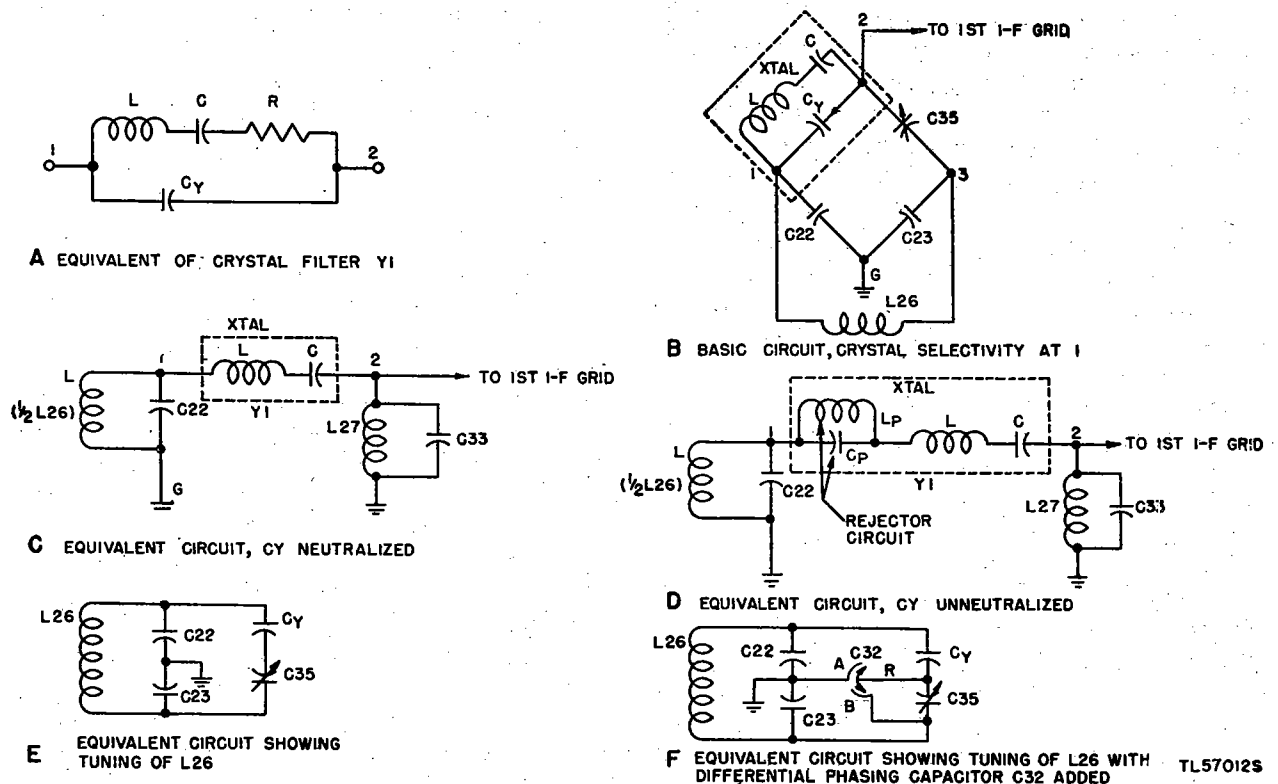

Figure 28. Radio Receiver BC-779-B, functional and equivalent diagrams of crystal filter circuit.
(4) Refer to appendix III for circuit details of Improvement Kit MC-531.
61. Crystal Filter (fig. 28)
a. EQUIVALENT CRYSTAL CIRCUIT. The equivalent electrical circuit of a crystal is shown in "A," figure 28. The circuit, and hence the crystal, are resonant at two frequencies: The frequency at which the reactance of L is equal to the reactance of C (series resonance), and the frequency at which the effective reactance of L-C (in series) is *inductive* and *equal* to the capacitive reactance of C_X (parallel resonance). At the series-resonant frequency the crystal acts as a low-impedance connection between 1 and 2. At the parallel-resonant frequency the crystal acts as a high impedance between 1 and 2.
b. BASIC FILTER CIRCUIT ("B," fig. 28). Capacitors C22 and C23 (100 mmF each) are connected in series across the secondary of i-f input transformer L26, and their junction is grounded to provide a midpoint connection in the resonant circuit L26-C22-C23. Consequently, the capacitor voltages are always of equal amplitude but 180° out of phase. Phasing capacitor C35 (1.5 to 5 mmF) is connected between 3 and 2, and the crystal is connected between 1 and 2.
c. NEUTRALIZATION OF C_X . Capacitors C22, C23, C35, and C_X (the capacity between the crystal holder plates) form a capacity bridge; the input is applied to 1 and 3, the output is taken from 2 and G. When capacitor C35 is adjusted so that its capacitance is equal to that of C_X , the voltage coupled from 3 through C35 to 2 is equal and opposite to the voltage coupled from 1 through C_X to 2. Under this condition C_X is neutralized and the crystal acts as a series-resonant circuit only ("C," fig. 28). Since the crystal is resonant at the intermediate frequency, there is (in effect) a direct connection between 1 and 2. As indicated in "C," figure 28, only the voltage across C22 (one-half the secondary voltage) is applied through the crystal to the grid circuit of the first i-f stage.
tance of L - C and the capacitive reactance of C_Y . For simplicity the parallel-resonant circuit is denoted as rejector circuit $L_P C_P$ in "D," figure 28. L_P and C_P denote the effective inductance and capacitance at the parallel-resonant frequency. L and C indicate the effective inductance and capacitance of the crystal at the series-resonant frequency, in this case the 465-kc i.f. In other words, unless C_Y is neutralized, the crystal acts simultaneously as a parallel- and series-resonant circuit. The parallel-resonant circuit $L_P C_P$ has no effect on the 465-kc i.f. but presents a high impedance to, and therefore rejects, the frequency to which $L_P C_P$ is resonant. L and C present extremely low impedance to the 465-kc i-f signal voltage and high impedance to voltages at different frequencies. *With underneutralization the resonant frequency of $L_P C_P$ is higher than 465 kc.*
f. **CAPACITOR C32.** Capacitor $C35$, in series with capacitance C_Y , is across $L26$ and affects its tuning ("E," fig. 28). To avoid the detuning effect and to enable shifting the rejection frequency to either side of the i.f., differential PHASING capacitor $C32$ ("F," fig. 28) is used in the radio receiver. Stator sections A and B are so arranged that, as rotor R is turned out of one stator into the other, the capacitance of the first *decreases* by the same amount that the capacitance of the second *increases*. Thus, whether the rotor is entirely engaged in stator A, is at a midpoint, or is entirely in stator B, the effective capacitance across A-B, and therefore across $L26$, remains constant. Assume that $C32$, the PHASING capacitor, is set at the arrow position of the PHASING control on the front panel and
(2) *CRYSTAL SELECTIVITY switch at 1.* When CRYSTAL SELECTIVITY switch SW7 is placed at 1, the short is removed from the crystal. If the secondary of L26 and the parallel-resonant grid circuit, L27-C33, are tuned to 465 kc, each is the equivalent of a high resistance in series with the equivalent series-resonant circuit of the crystal ("C," fig. 28). Consequently, the Q and therefore the selectivity of the series-resonant (crystal) filter circuit is reduced, and the bandwidth is several kilocycles wider than that of the crystal alone.